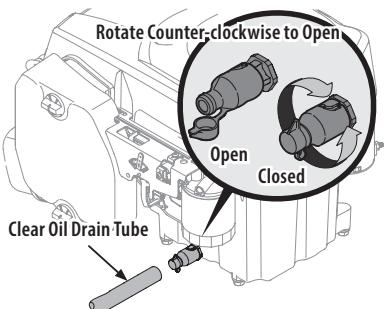

Figure 35
- Open the protective cap on the end of the oil drain valve to expose the drain port (Figure 35 on page 26).